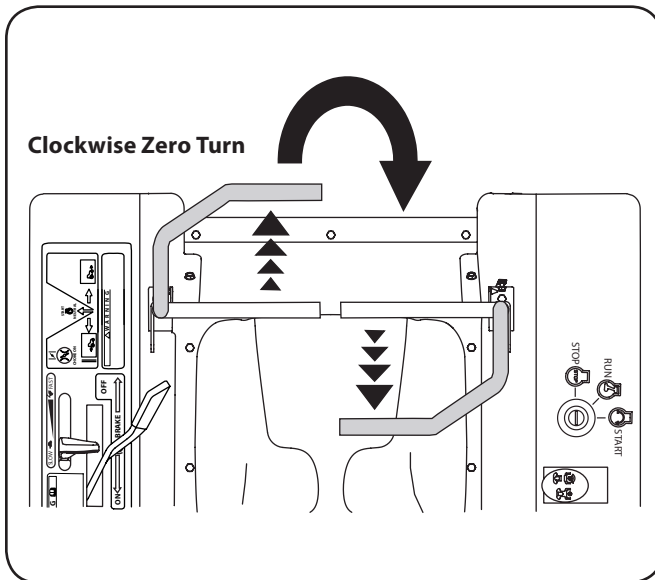

Figure 1-8
2. To turn clockwise, move the left control lever forward while simultaneously moving the right control lever rearward. See Figure 1-8.